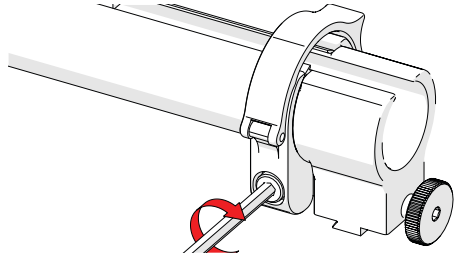

Fig. 101 - Tighten clamp screw
4. Tighten the clamp screw (Fig. 101).